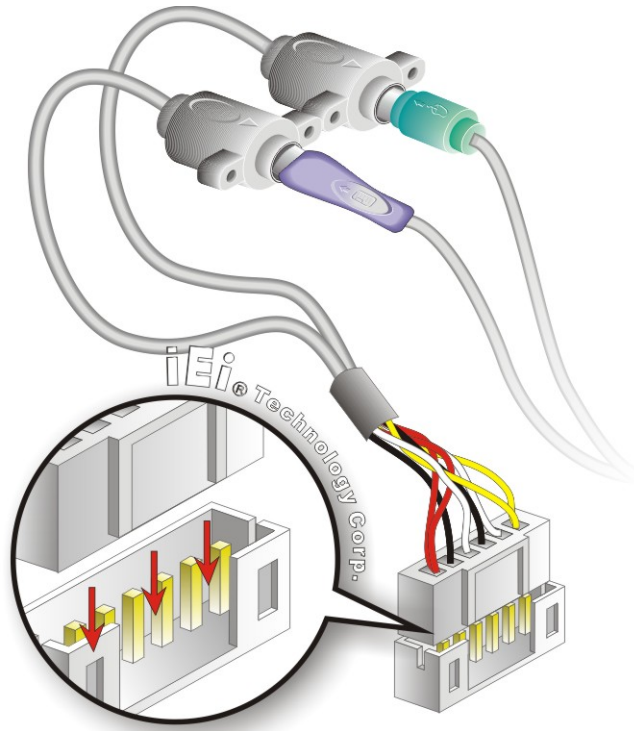

Figure 4-9: Keyboard/mouse Y-cable Connection
Step 2: Align the connectors. Correctly align pin 1 on the cable connector with pin 1 on the WAFER-PV-D4251/D5251/N4551 keyboard/mouse connector. See Figure 4-9.
Step 3: Insert the cable connectors Once the cable connector is properly aligned with the keyboard/mouse connector on the WAFER-PV-D4251/D5251/N4551, connect the cable connector to the on-board connectors. See Figure 4-9.